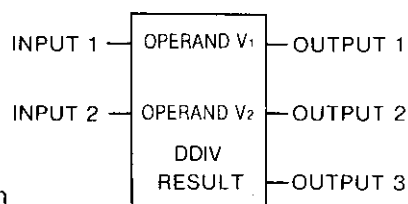

Fig. 5.36 DDIV General Form
- Fig. 5.36 shows the form of double-precision divide (DDIV).